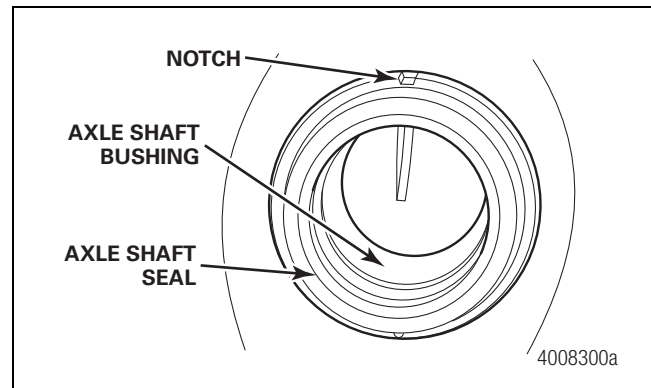

Figure 9.2
2. Use a seal driver and hammer to install the retaining seal into the axle housing. Figure 9.2.